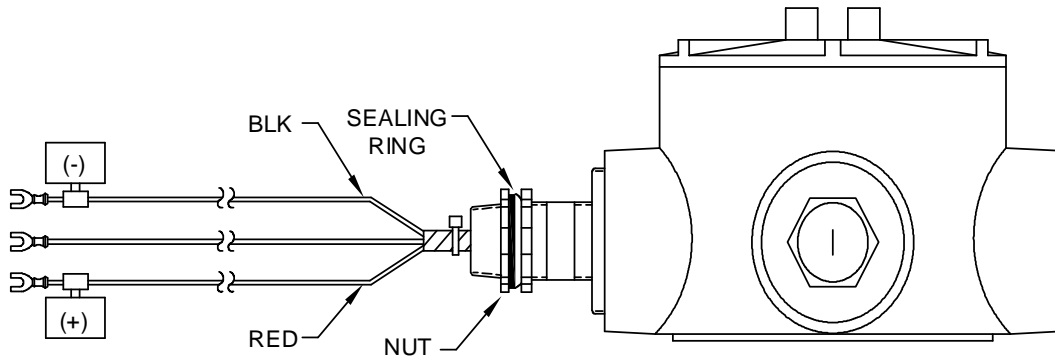

Figure 37: DC wiring instructions
3. Connect the AC battery pack charger to the XRCG4 using the supplied sealing ring and nut (see Figure 37).